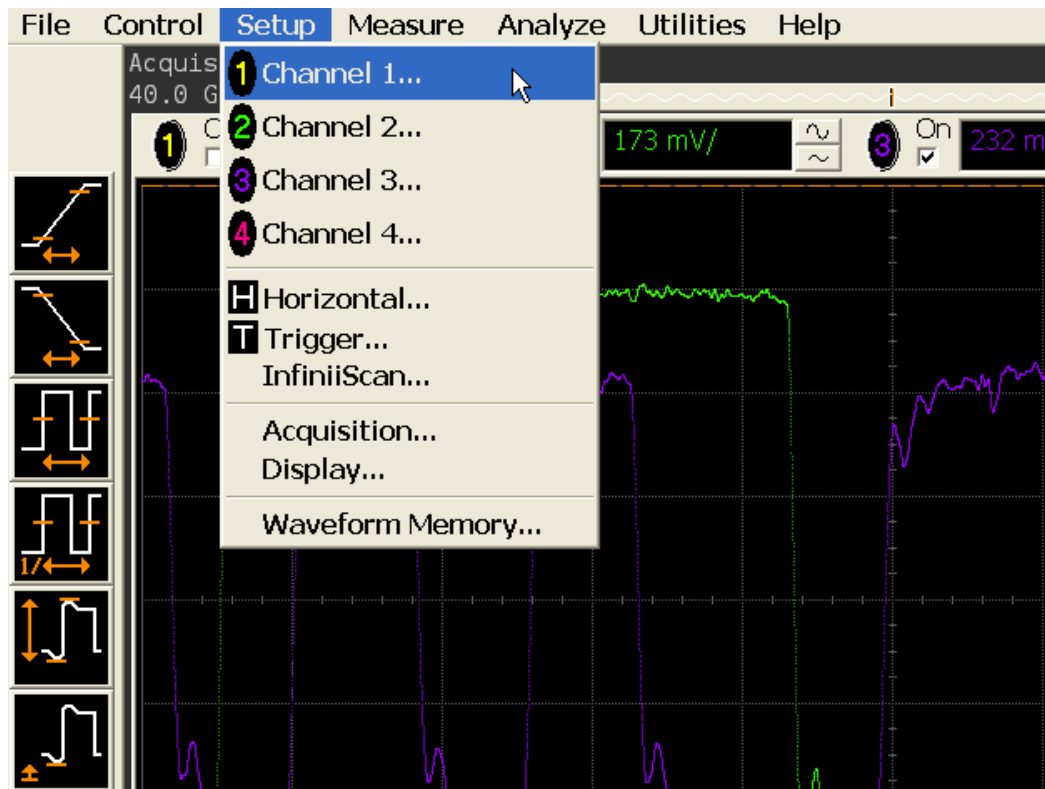

Figure 100 Channel Setup Window.
- 1 Referring to Figure 100 below, perform the following steps: